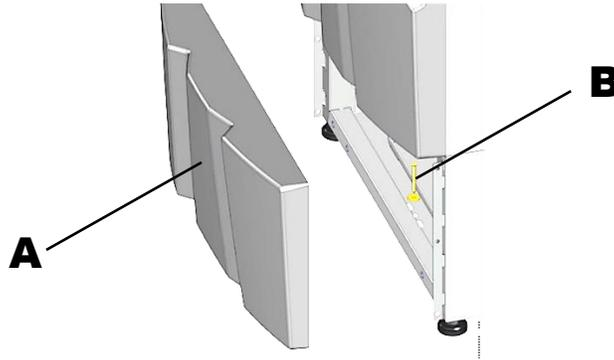

Figure 3-4: Removing the Unit Front from Wood Pallet
2. Remove the screw & washer “B” (Figure 3-4), which fastens the pallet to the unit front.